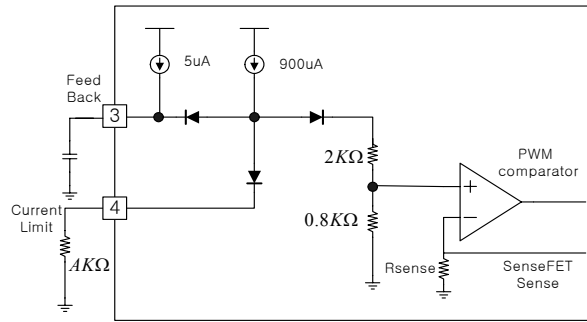

Figure 14. Peak current adjustment
**8. Adjusting Current limit function:** As shown in fig 14, a combined 2.8kΩ internal resistance is connected into the non-inverting lead on the PWM comparator. A external resistance of A on the current limit pin forms a parallel resistance with the 2.8kΩ when the internal diodes are biased by the main current source of 900uA.